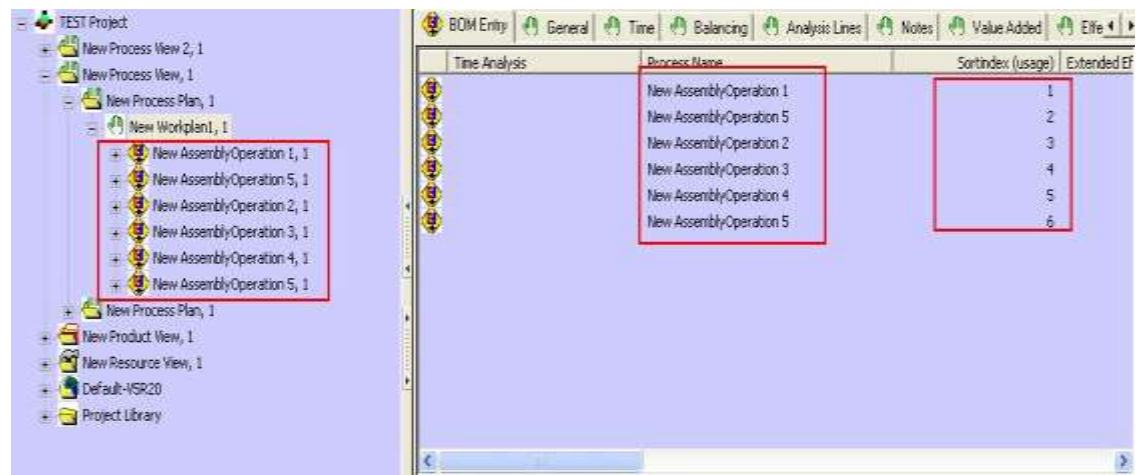

Figure 111: Linked and Re-ordered PPR-Components in Listview
- 4) With help of the left mouse button you can copy selected PPR-components. Press in addition **CTRL** key and keep these pressed during drag and drop. *Please refer the Figure 111.* In this example we are copying **New AssemblyOperation4** under **New Workplan1**.